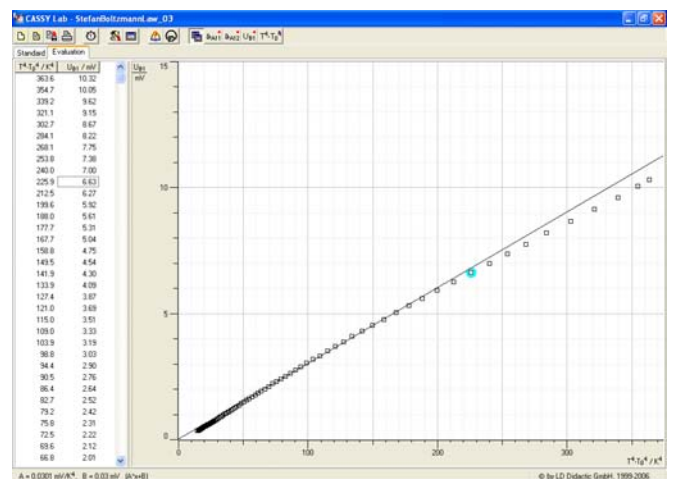

Fig. 5: Voltage "UB1" of the thermopile as function of $T^4 - T_0^4$.
- Close the window "Settings" and select the tab "Evaluation" (Fig. 5).